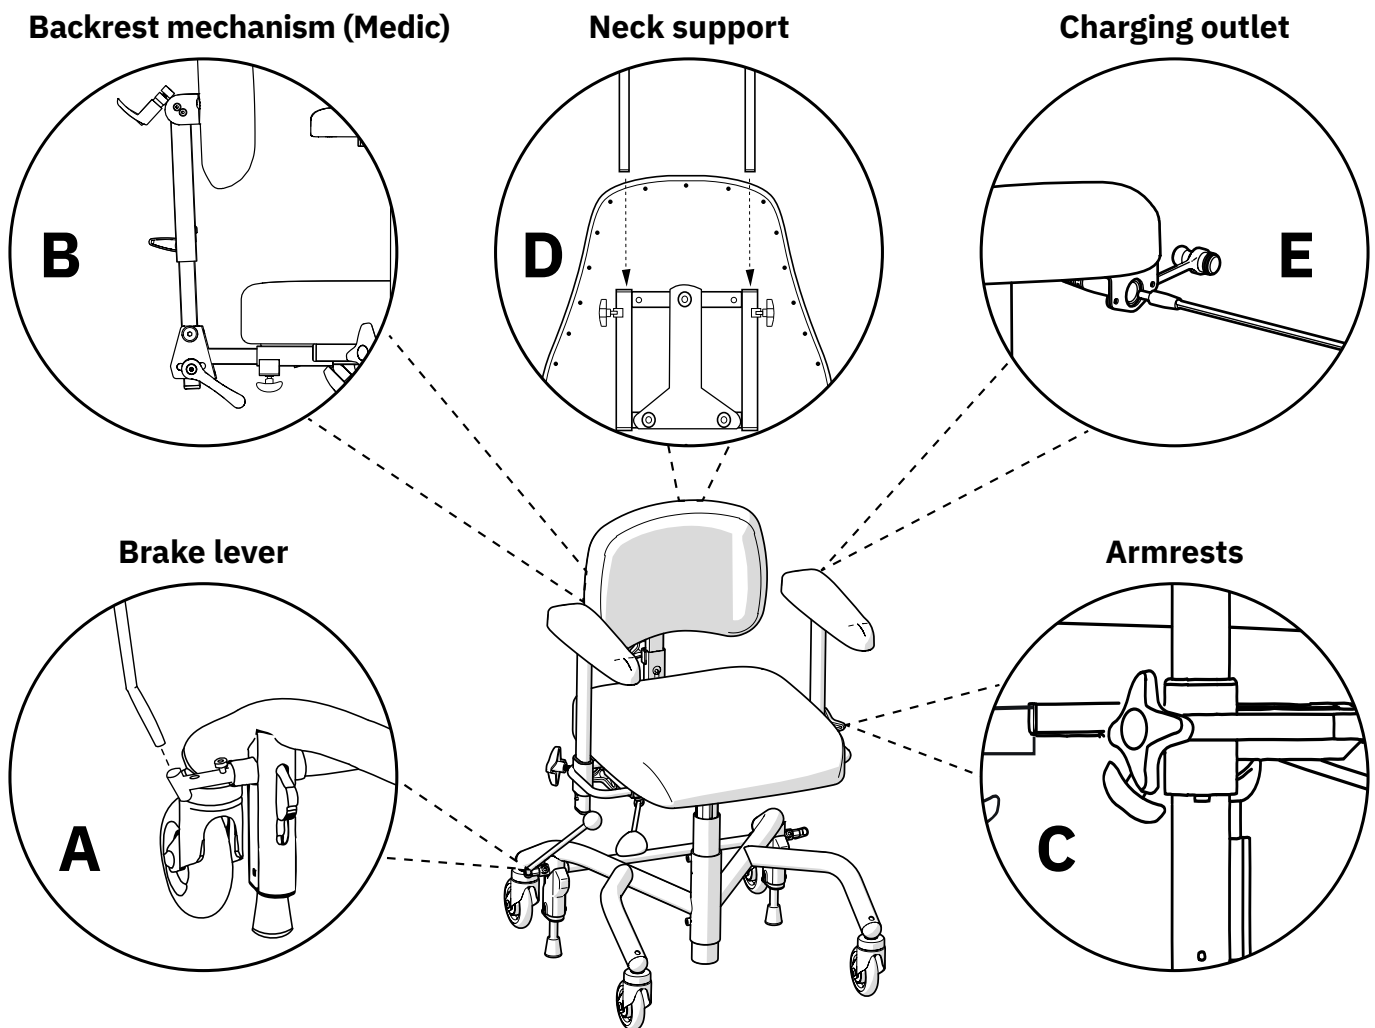

Figure 2.1. Preparations before the device is put into use.
Insert the brake lever into the brake lever bracket (A), see Figure 2.1. The brake lever can be placed on the right or left side.
Place the backrest post in the back recliner (B) and set the desired height level, see Figure 2.1. Tighten all controls (B). The image shows one of several back mechanisms available for Mercado Medic devices. Other back mechanisms are mounted in the same way, although the appearance may differ from that in the image.
Loosen the armrest controls (C) and set the desired height and width levels, see Figure 2.1. Tighten all controls (C).
If the device is supplied with a neck support, insert the neck support mechanism into the backrest bracket (D) and set the desired height level, see Figure 2.1. Tighten all controls (D).
Before first use, the battery in electric models must be activated and/or charged. This is done by connecting the battery charger to the device's charging outlet and to a wall outlet (E), see Figure 2.1. The charging outlet can be placed in different places on the device. The most common is that the device comes with the charging outlet mounted at the rear edge of the left armrest.